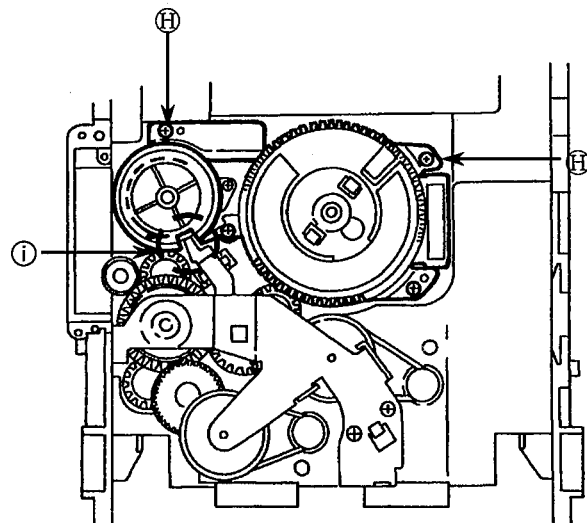

Fig. 22
4. Rotate the Cam gear L so that the select gear's ② is positioned as shown in Fig. 22.
5. Remove 4 screws ④ securing the cam unit which includes the cam gear L and Cam R1, R2 ass'y. (See Fig 22.)